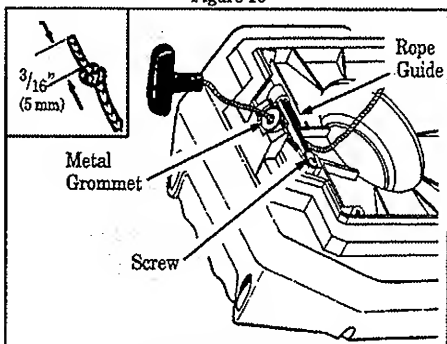

Figure 17
9. Insert one end of the rope through the handle and secure with a knot. Leave  $3/16"$  (5 mm) pigtail behind the knot. Figure 17 (Inset).
10. Insert the other end of the rope through the metal grommet, then under the rope guide. Figure 17.